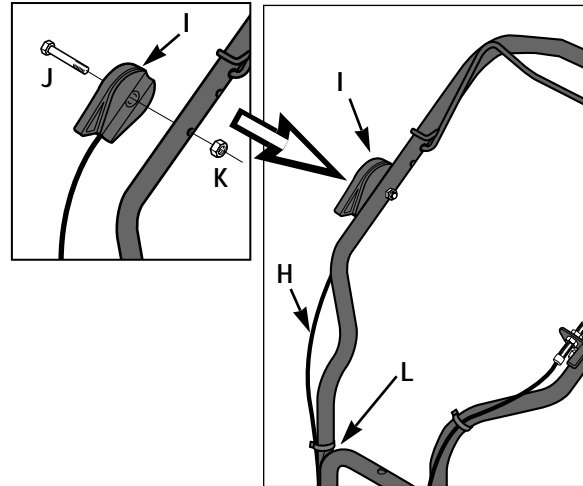

Figure 2-3: Attach throttle lever to right-side handlebar.
1. One end of the throttle control cable (H, Figure 2-3) is attached to the engine. Gently unwind the cable from its shipping position and position the Throttle Control Lever (I) on the outside of the right handlebar, next to the throttle control decal.
2. Secure the Throttle Control Lever to the handlebar with a 1/4-20 x 2 hex hd. screw (J, Figure 2-3) and 1/4-20 hex locknut (K).
3. Use a cable tie (L, Figure 2-3) to secure the throttle cable (H) to the handlebar as shown.